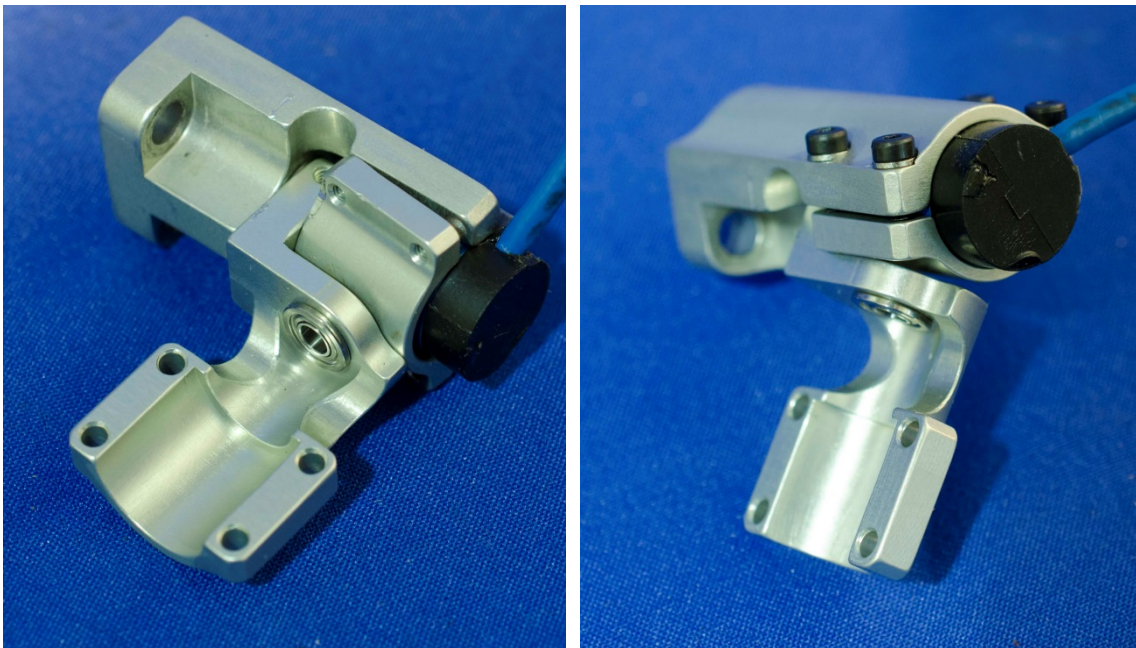

Figure 6-10. Install IR-TRACC clamp
- 6.2.2.2 Install the IR-TRACC Clamp (472-3554) to the assembly using four M2 split lock washers and accompanying M2 x 0.4 x 8 SHCS (Figure 6-10).